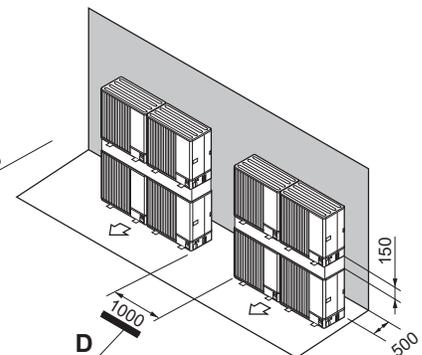

Fig. 2-21
- (7) Stacked unit arrangement (Fig. 2-21)
- D: Space (Fig. 2-21)